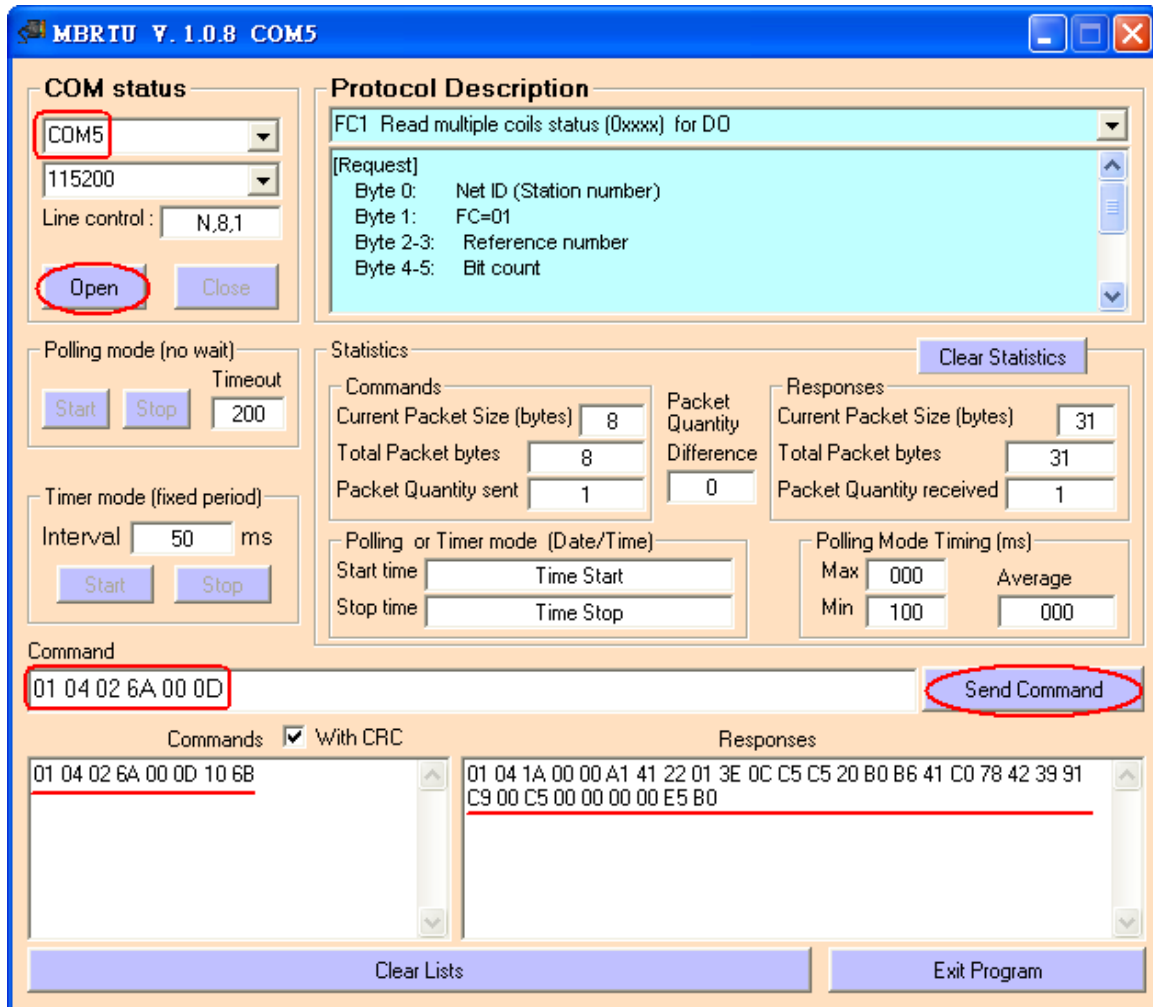

Figure 6-2 : Receive HART Command 3 data
- (2) The below demo will use the free MB/RTU tool provided by ICP DAS to show HART command 1 data. (Download from http://ftp.icpdas.com/pub/cd/8000cd/napdos/modbus/modbus_utility/)
- (3) Run “MB/RTU” tool. Set the com port settings the same with I-9720 (Baud Rate / Data Bits / Stop Bits / Parity) and then click “Open” button to connect to I-9720 (Figure 6-2).
- (4) Input “01 04 02 6A 00 0D” in “Command” field and click “Send Command” button to send the Modbus command. The HART command 3 data will be received in “Responses” field => “01 04 1A 00 00 A1 41 22 01 3E 0C C5 C5 20 B0 B6 41 C0 78 42 39 91 C9 00 C5 00 00 00 00 E5 B0” (Figure 6-2).